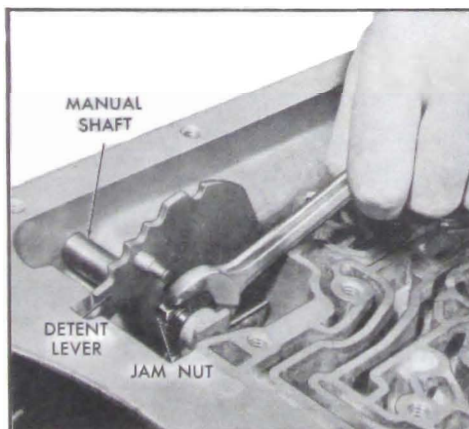

Figure 5-526
a. Unthread the jam nut holding detent lever to manual shaft. See Figure 5-526.